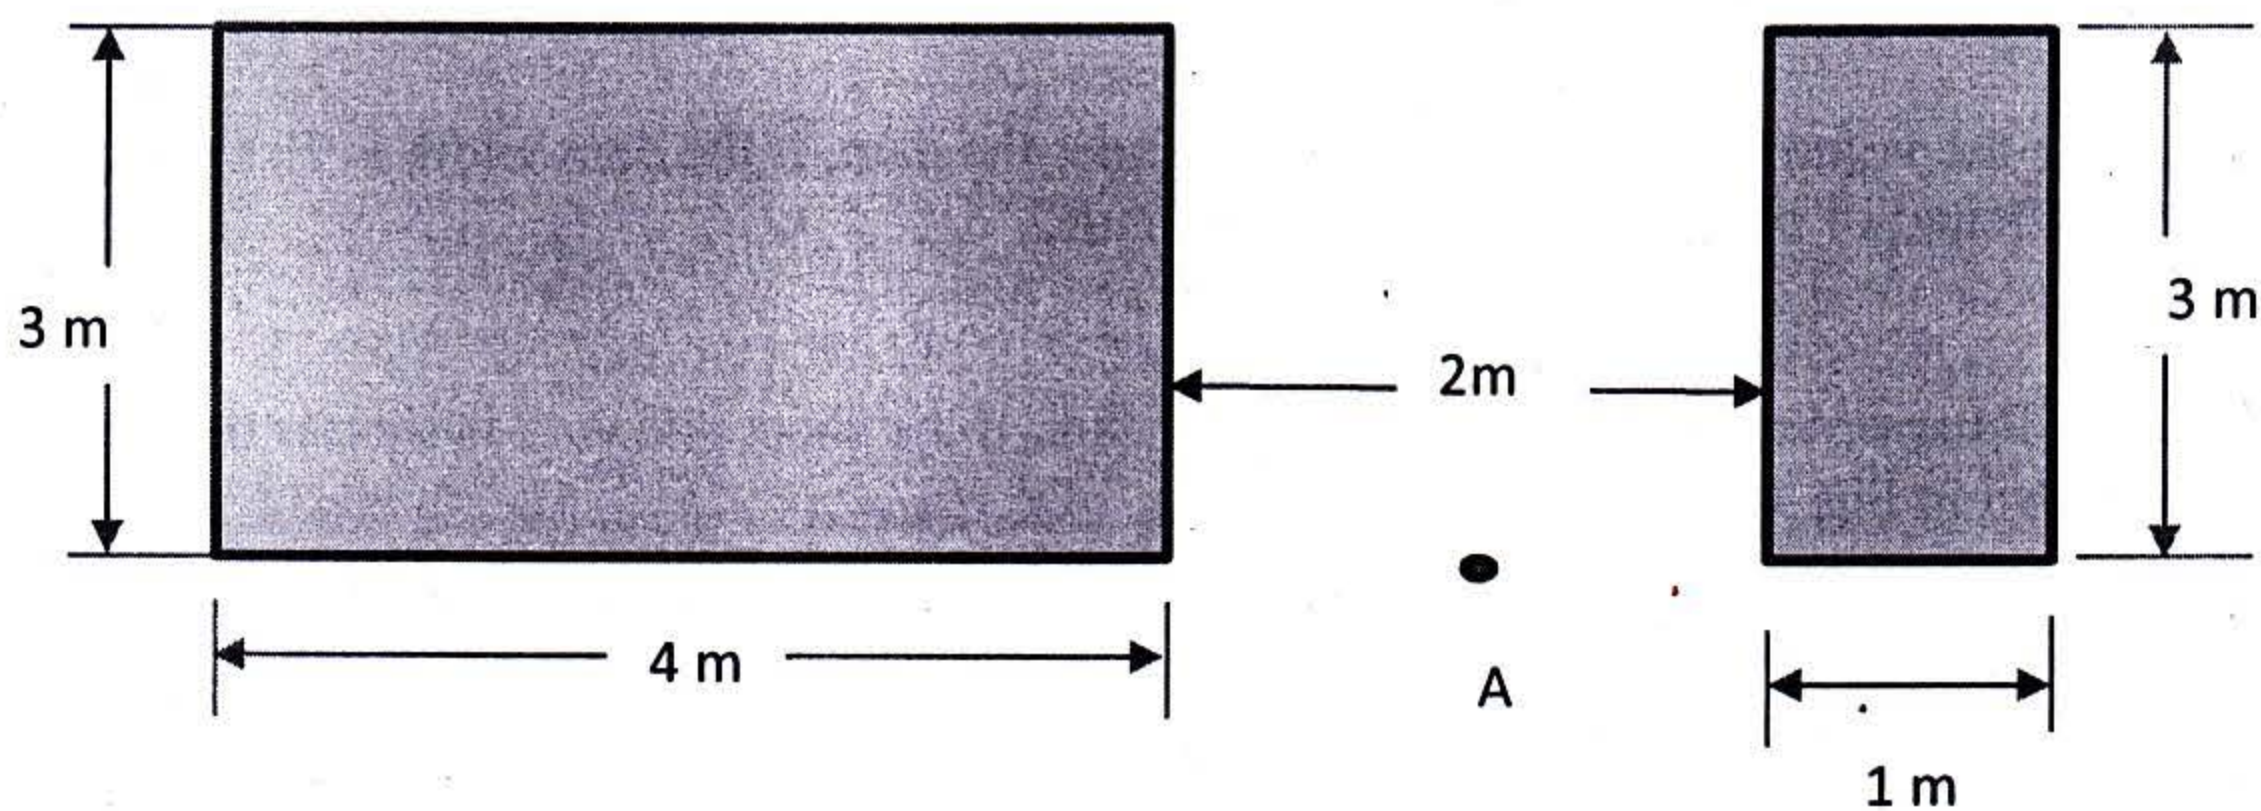
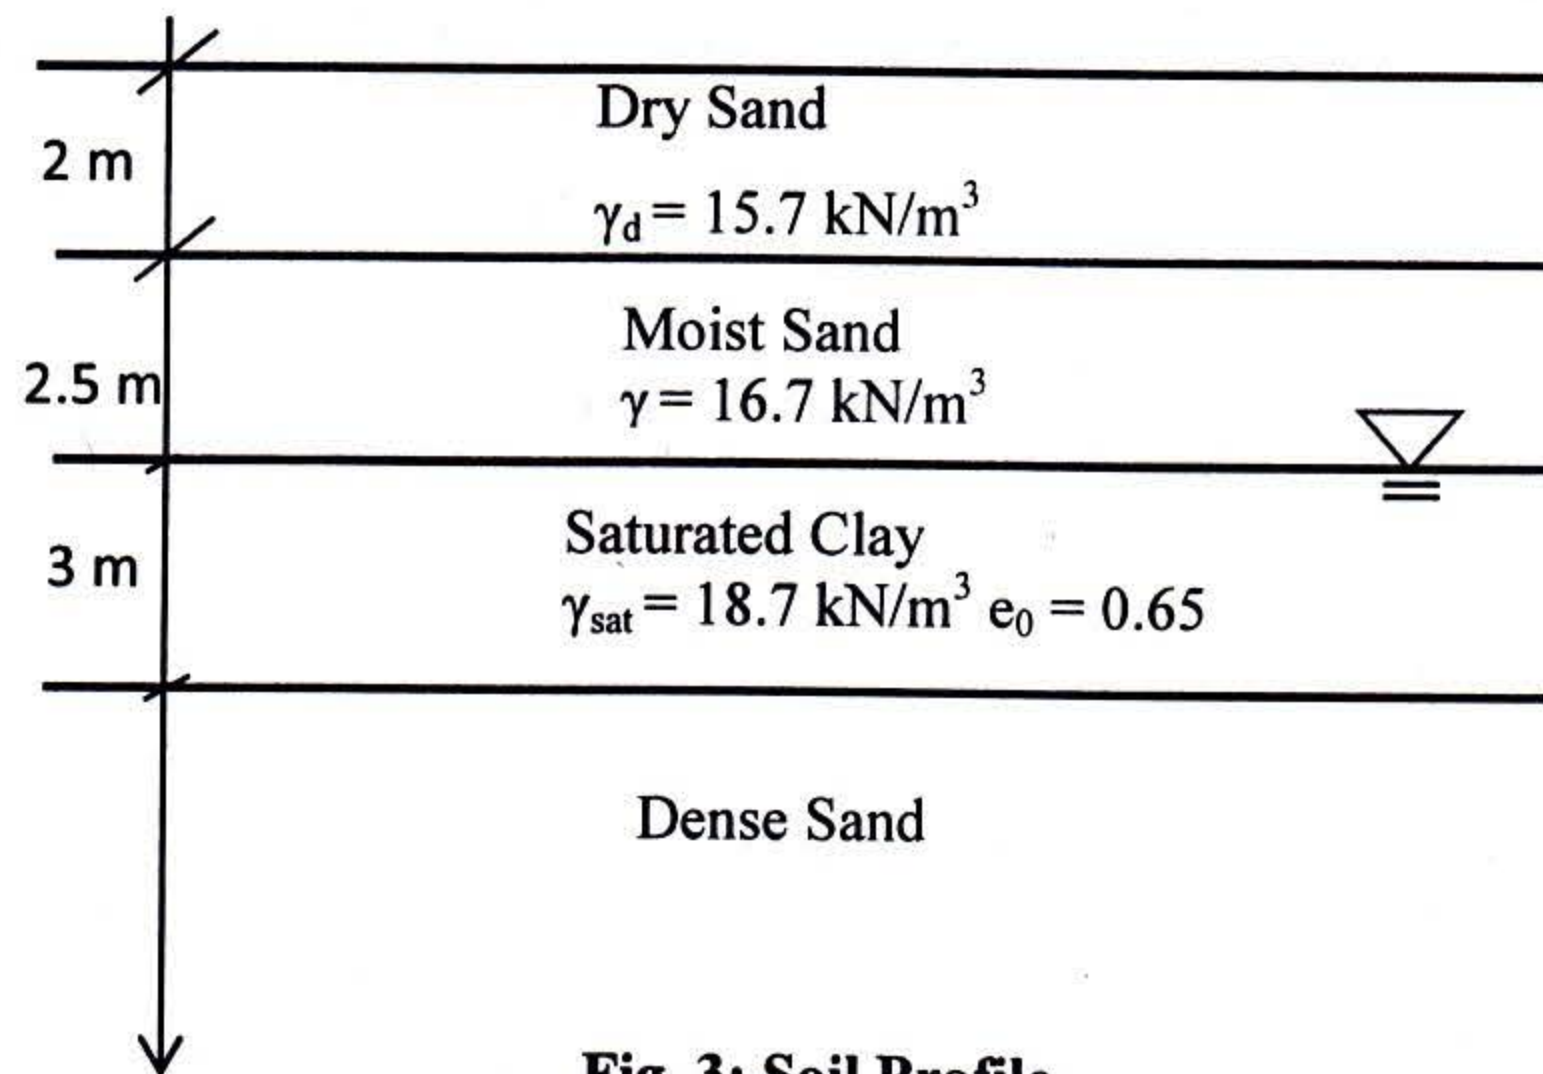

Fig. 2: Rectangular footings (Plan View)
Fig. 3: Soil Profile
4. Given that depth of foundation is 2 m for two rectangular footings (Fig.2). The soil profile is given in Fig. 3.